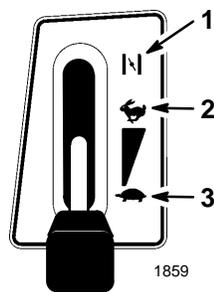

Figure 8
4. Move the throttle lever to “CHOKE” (Fig. 8).
- After the engine starts, slowly move the throttle lever to "FAST" (Fig. 8). If the engine stalls or hesitates, move the throttle lever back to "CHOKE" for a few seconds. Then move the throttle lever to "FAST." Repeat this as required.
- Move the throttle lever to "SLOW" (Fig. 8).